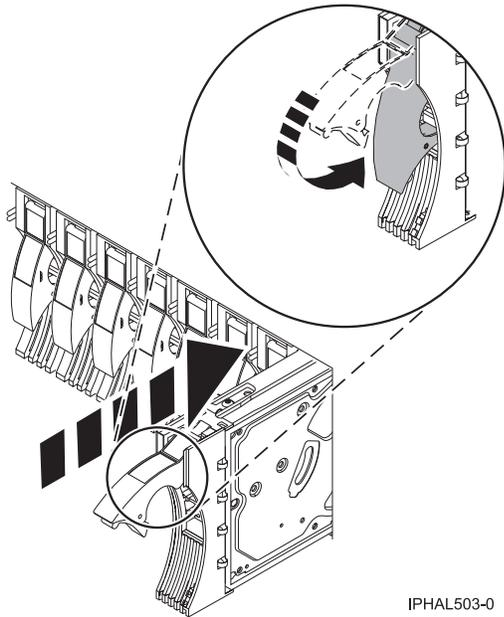

Figure 81. Installing a disk drive in a model or 7311-D20
10. Slide the disk drive all the way into the system or expansion unit and then lock it in place by pushing in the disk drive handle, as shown in Figure 81.